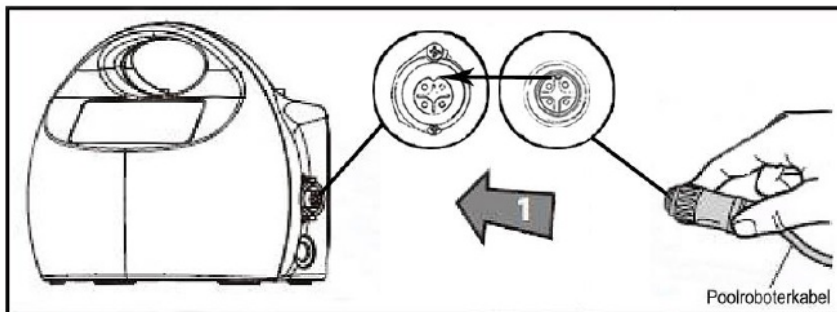
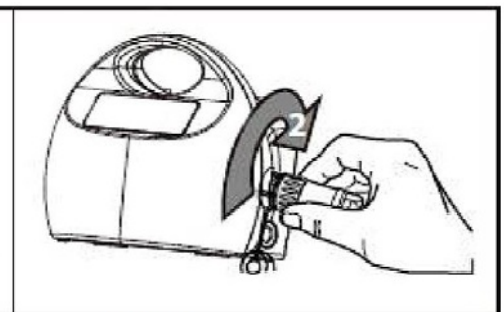

Fig. 3.1
Fig. 3.2
- Unscrew the protective cap of the cable connection on the switch box and connect the cable connection of the pool robot (Fig. 3.1). Then tighten this clockwise (Fig. 3.2).